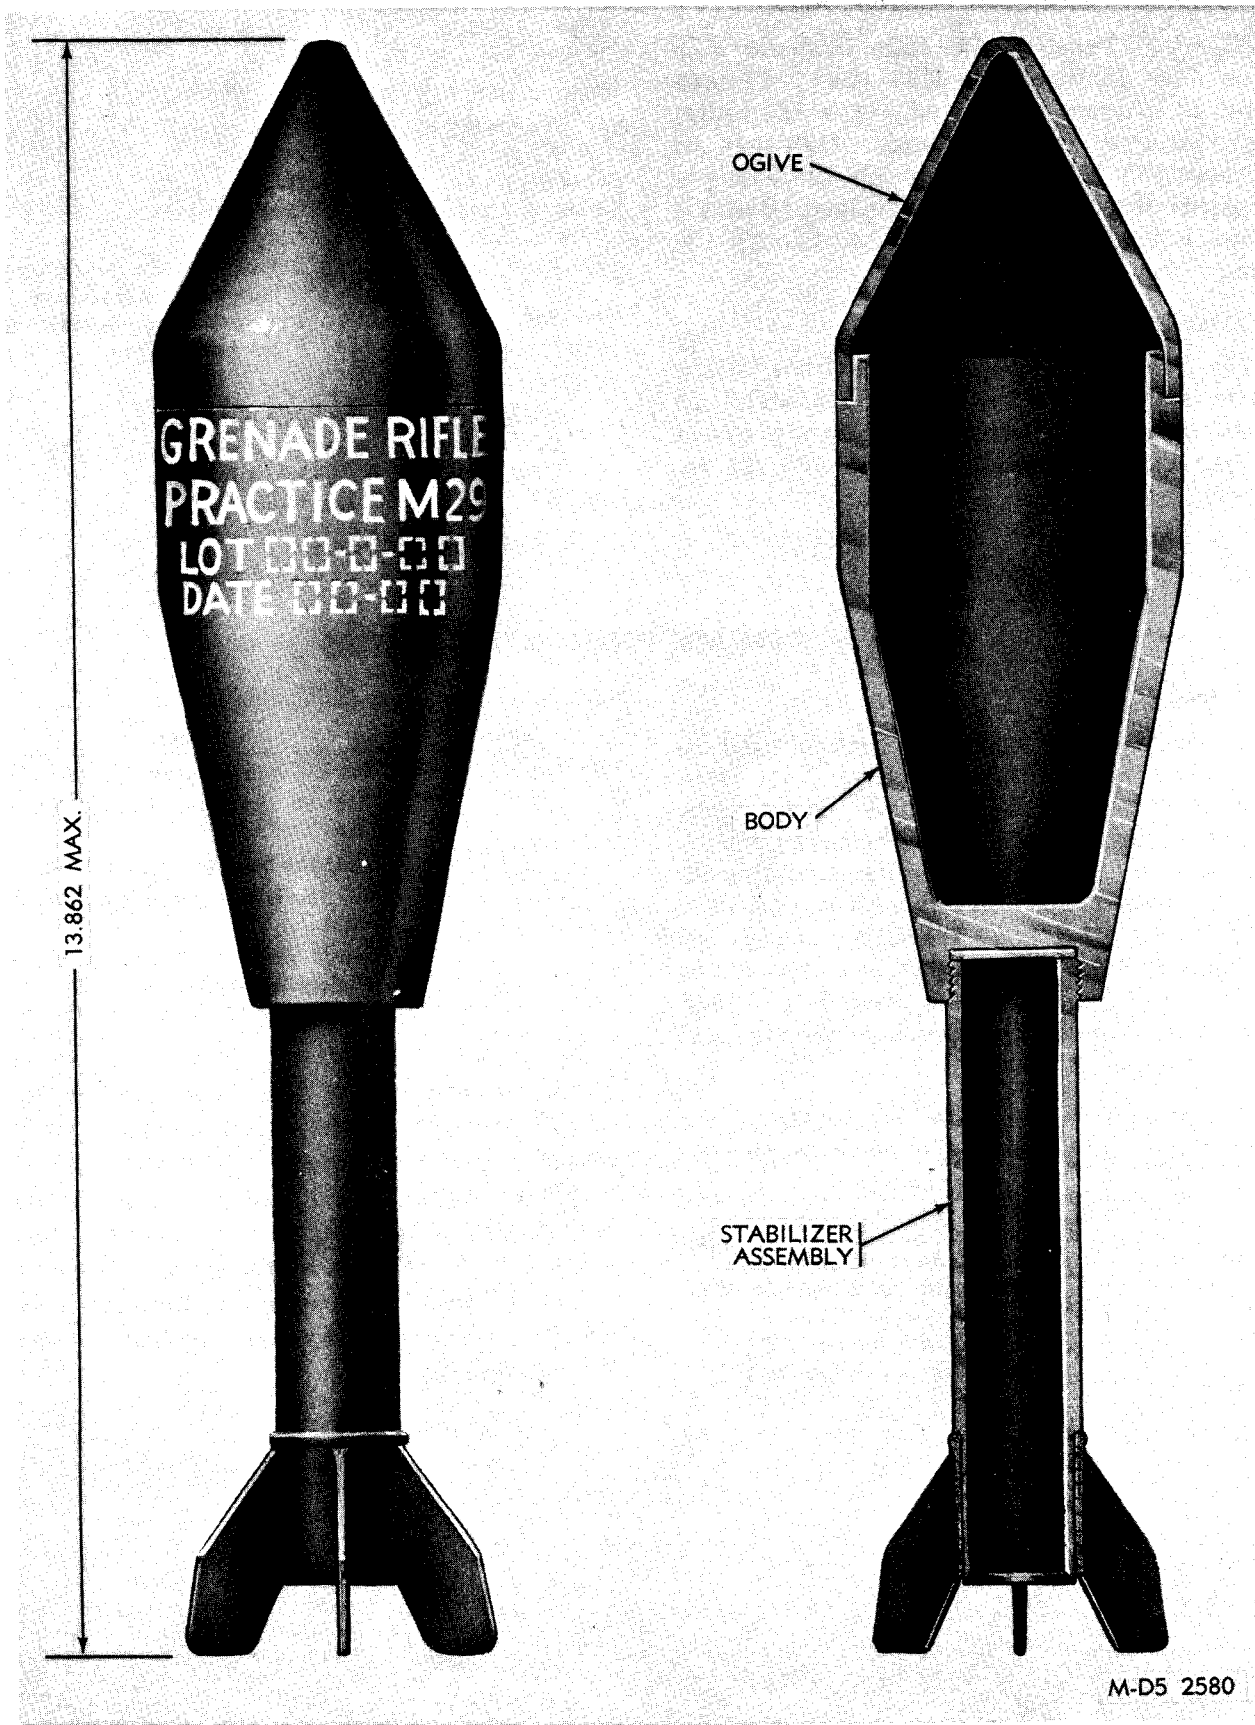

Figure 3-7. Practice AT rifle grenade M29.
a. *General.* Practice AT Rifle Grenade M29 has no filler or fuze. The M29 (fig. 3-7) may be fired at a target without danger to the target other than from impact. Grenade M29 may be used repeatedly if the stabilizer tube fin assembly is replaced when it becomes damaged. Grenade M29 has a maximum range of approximately 150 meters.